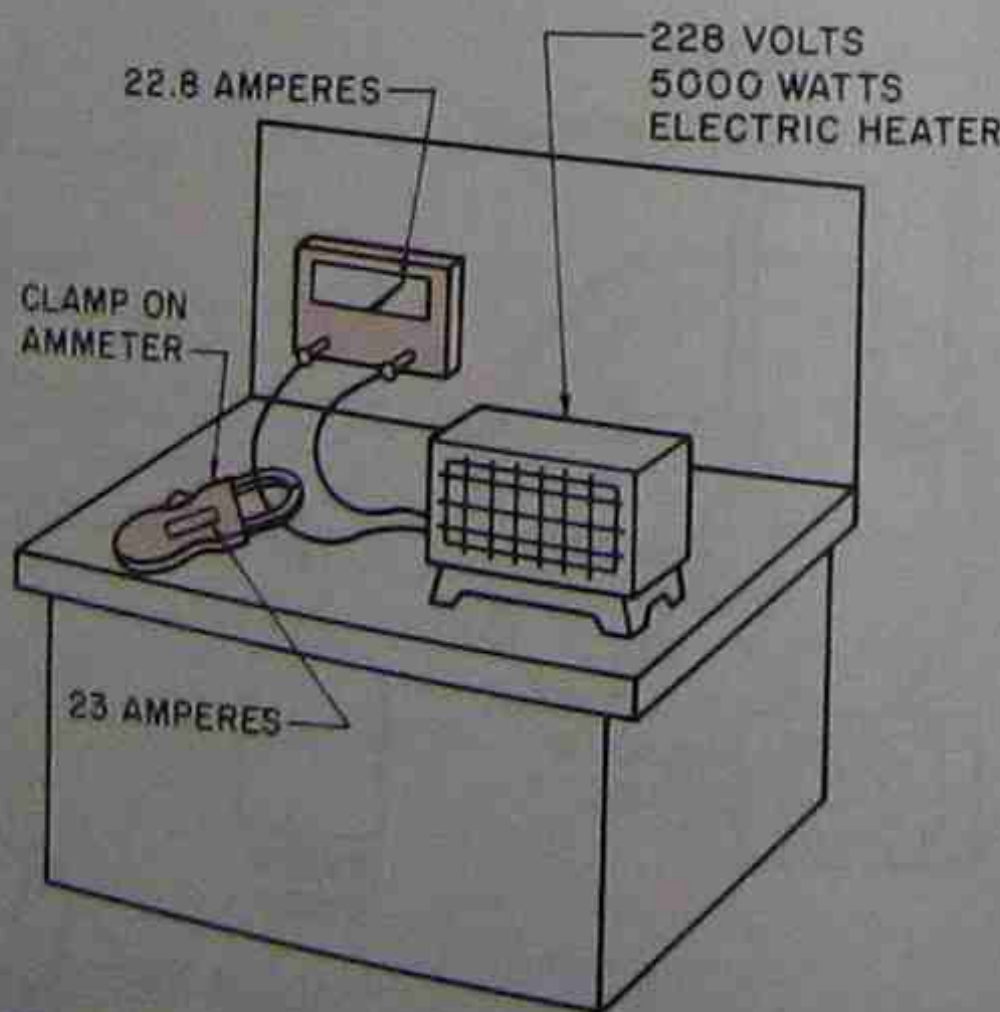

Figure 9-25. Clamp-on ammeter being compared to a quality bench ammeter.
The clamp-on ammeter is used most frequently. This instrument clamps around one conductor in an electrical circuit. Like the voltmeter, it can be compared to a high-quality bench meter at the local power company or technical school, Figure 9-25. Some amount of checking can be done by using Ohm's law and comparing the ampere reading to a known resistance heater circuit. For example, Ohm's law states that current (A) is equal to voltage (V) divided by resistance ( $\Omega$ ):